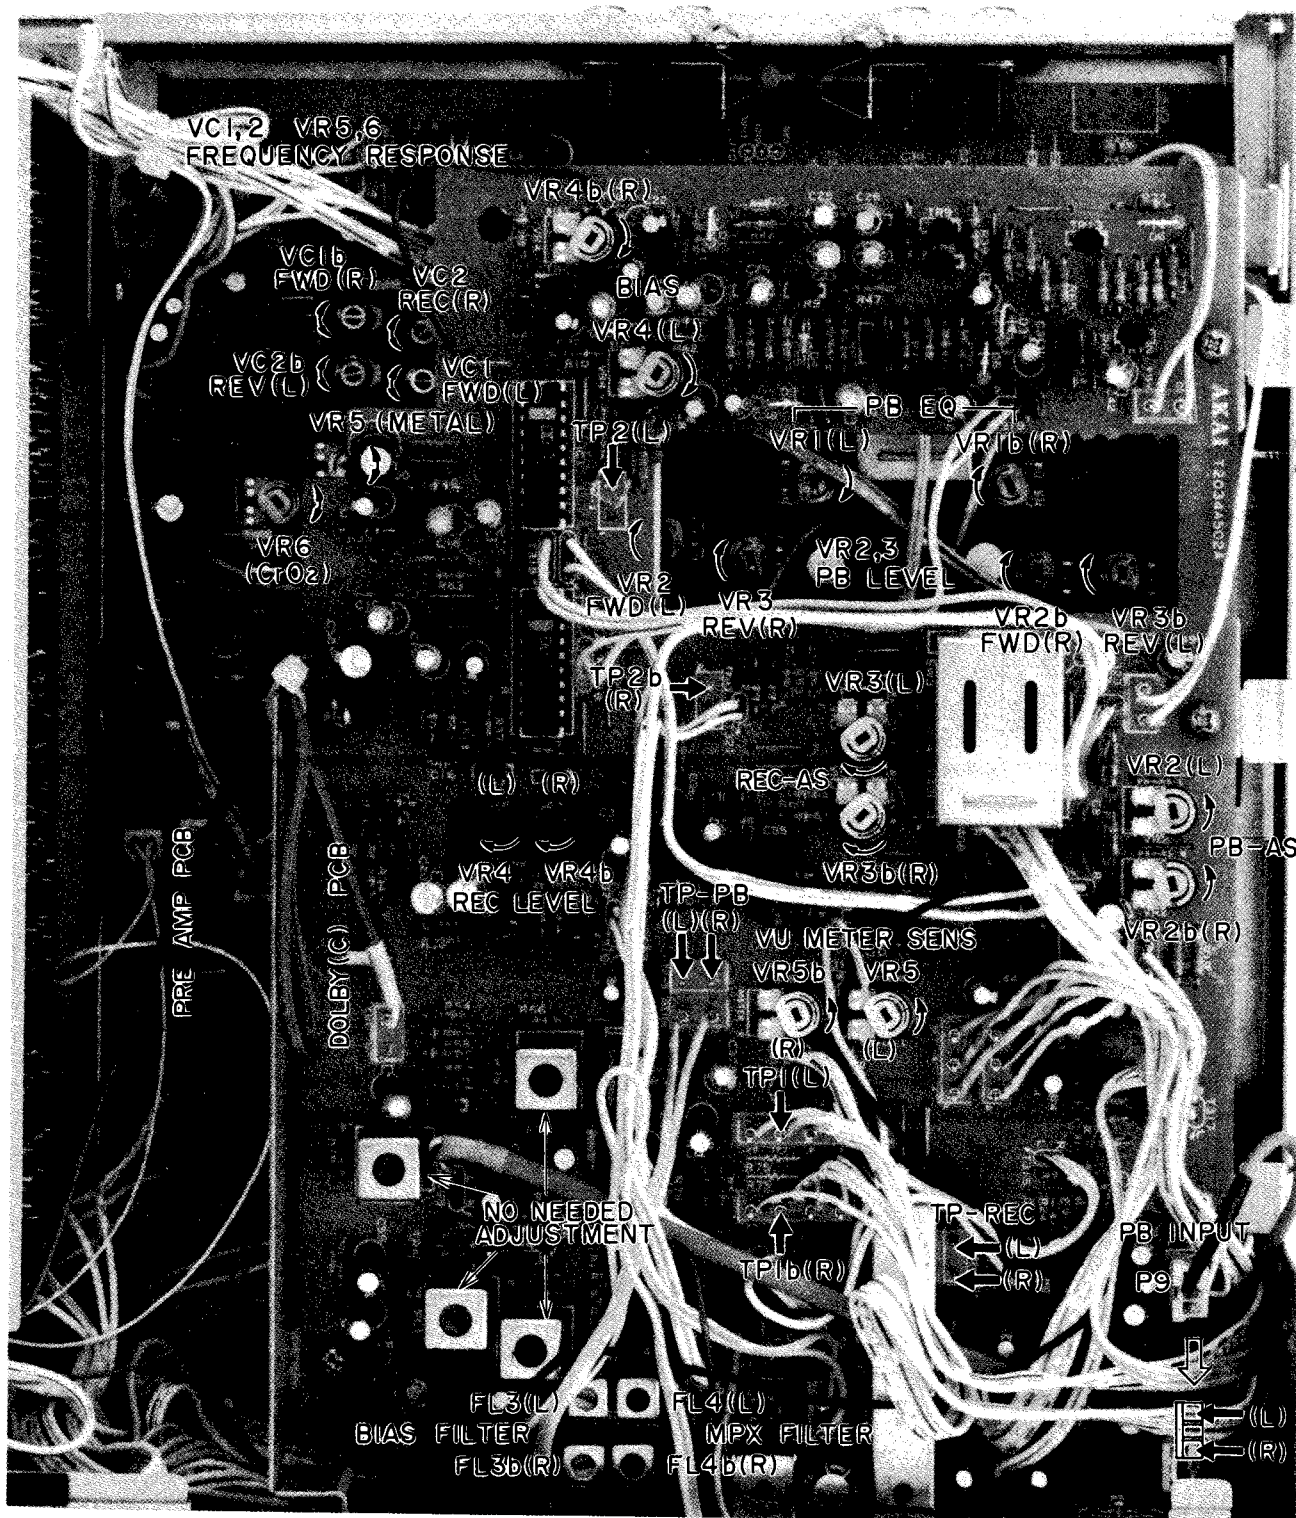

Fig. 28 Amplifier Adjustment
3. DOLBY ADJUSTMENT (Refer to Fig. 28 Dolby (C) PCB)